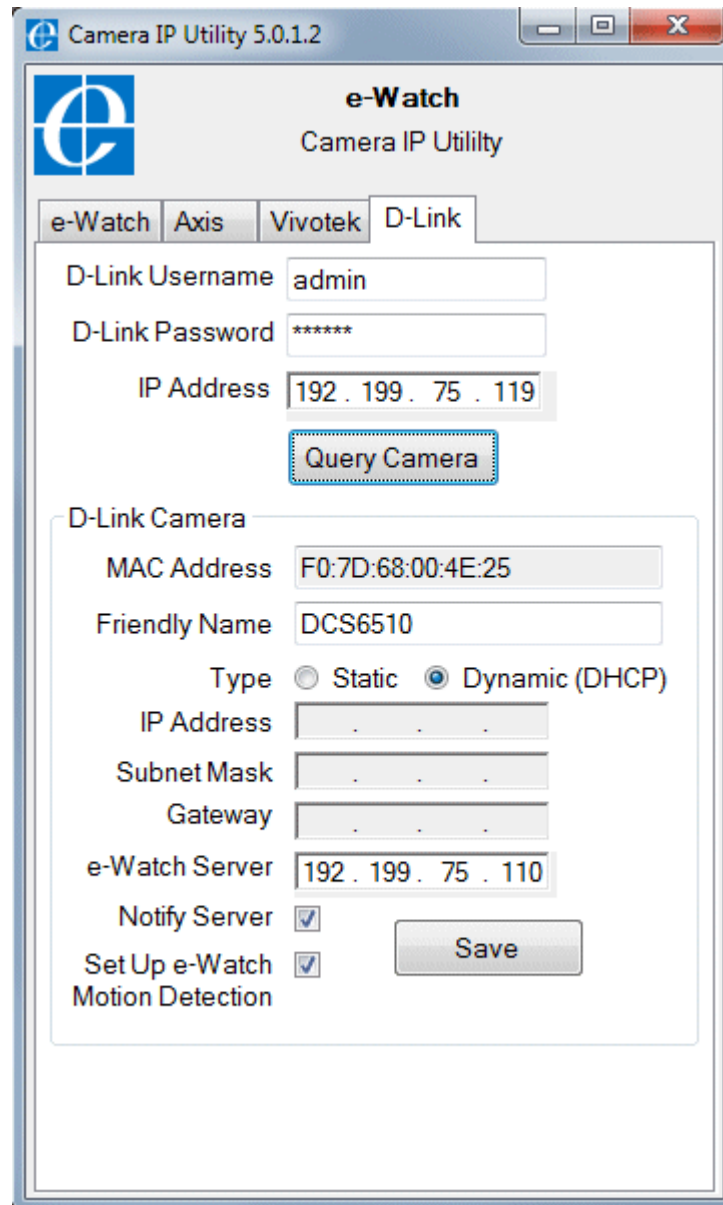

Figure 4-1. Connecting D-Link Camera Using e-Watch Camera IP Utility
You can use the e-Watch Camera IP utility to connect D-Link cameras. See Figure 4-1.
- Figure 4-1. Connecting D-Link Camera Using e-Watch Camera IP Utility 8